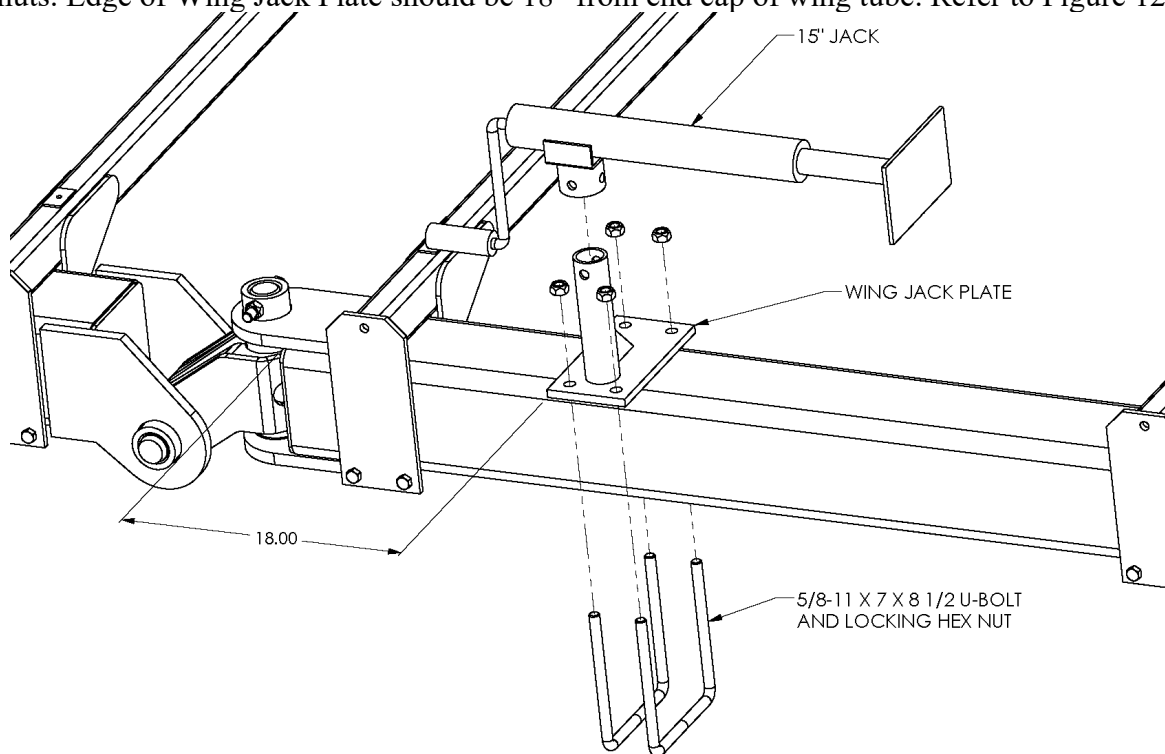

Figure 12
1. Attach the wing jack plates to the wing tubes. Use 5/8-11 x 7 x 8 1/2 U-bolts and locking hex nuts. Edge of Wing Jack Plate should be 18" from end cap of wing tube. Refer to Figure 12.